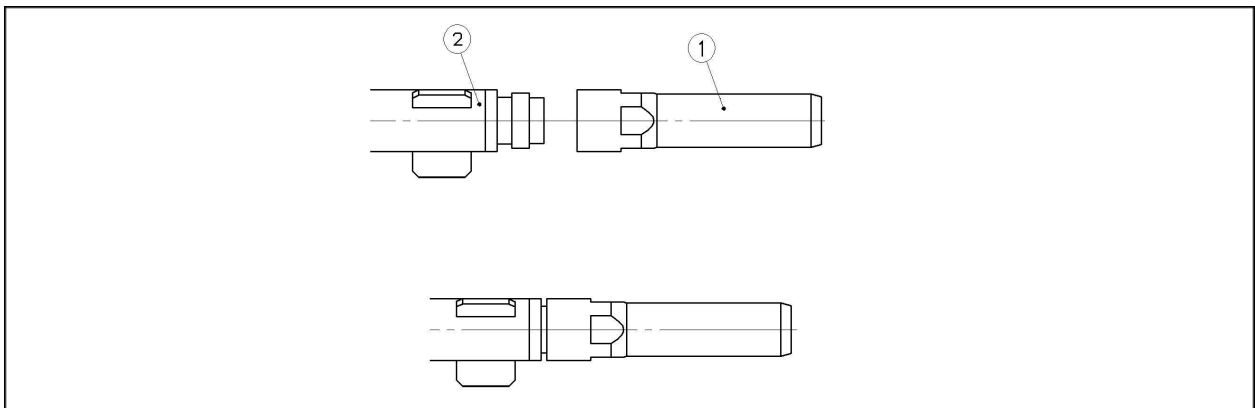

Figure 4
- ◆ Screw the fuel gas injector (1) on the fuel gas lance (2) as described on figure 4 :